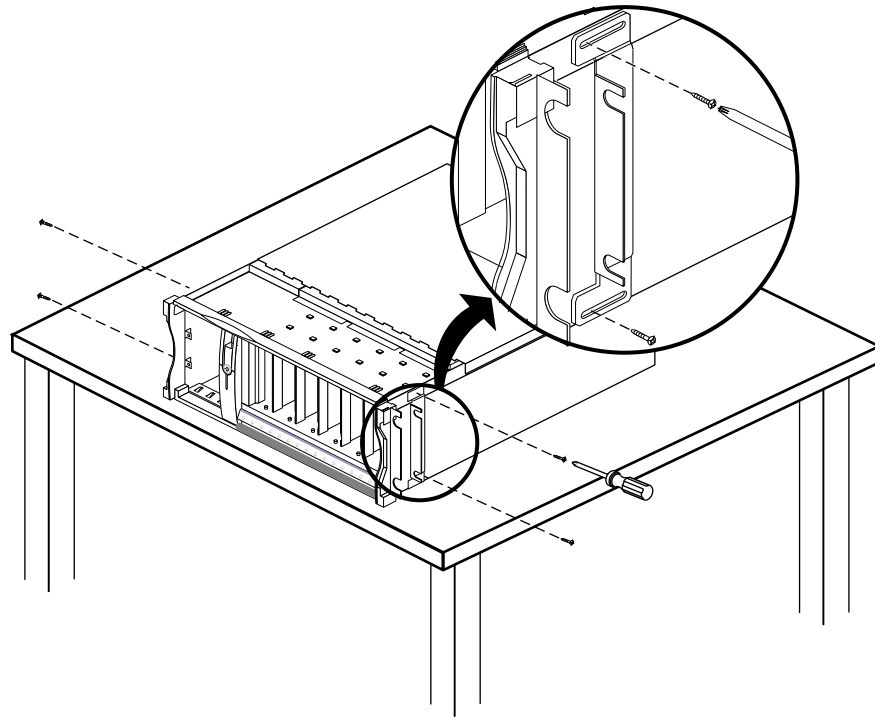

Figure 3-3 Attaching the Rackmounting Hardware (Ears)
- Using a #2 Phillips screwdriver and the 6-32 x 1/4-inch screws provided with the Origin200 system, fasten each ear to the side of the chassis, behind the front flange, as shown in Figure 3-3. Use two screws for each mounting ear.